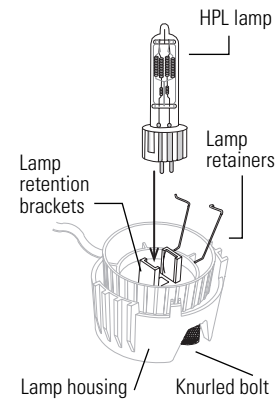

Figure 4
4. Line up the flat sides of the lamp base with the retention brackets on either side of the socket. See **Figure 4**.